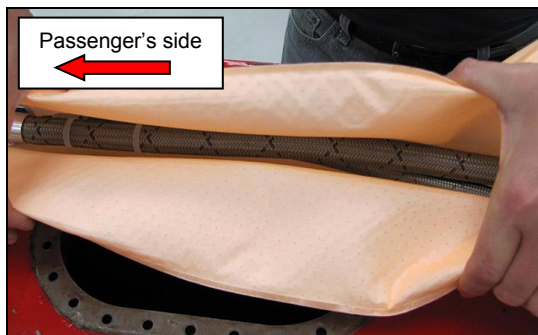
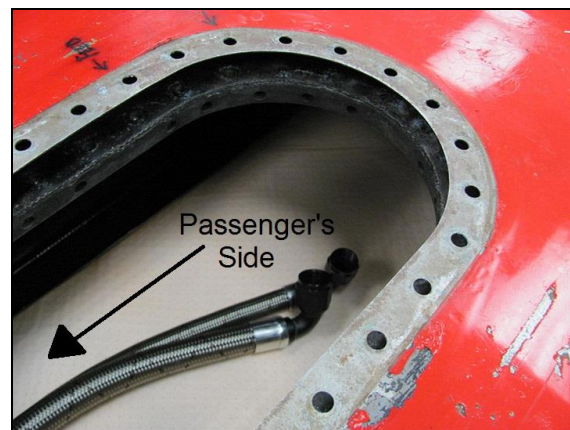

Figure 4
Figure 7
7. Install the HydraMat with the blanket fitting side first toward the right rear (passenger's side). See Figures 4, 5, & 6. Fold and feed into fuel cell toward the right rear (passenger's side) of vehicle. Make sure the HydraMat lays flat on the bottom of the fuel cell (Figure 7).